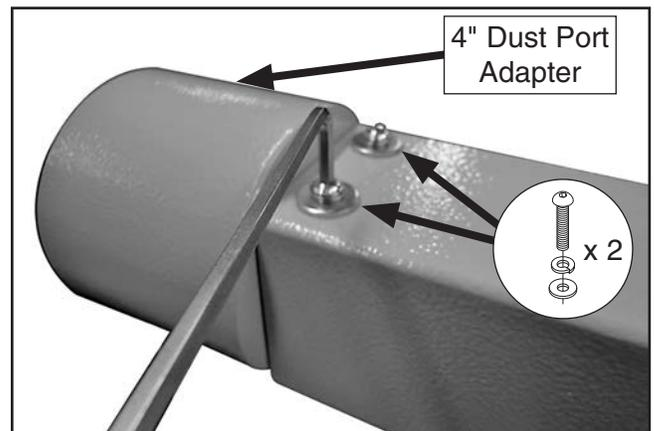

Figure 56. Installing 4" dust port adapter.
- 66. Install 4" dust port adapter on upper support arm, using (2) M6-1 x 12 button head cap screws, (2) 6mm lock washers, and (2) 6mm flat washers (see **Figure 56**).